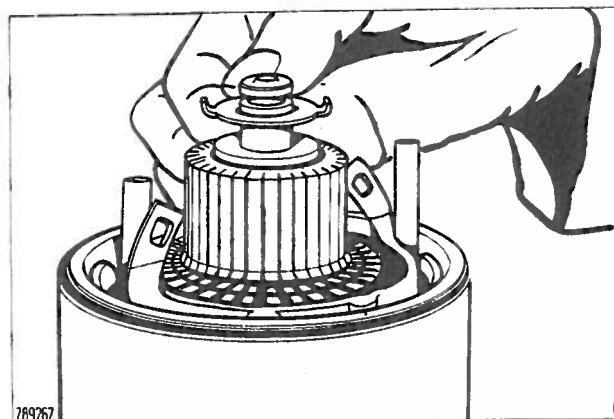

Fig. 94 Fitment of fibre and tabbed thrust washers
5. Fit the through bolts together with the insulating tubes. Fit the fibre and tabbed thrust washers respectively onto the commutator end of the armature shaft. The tabs should face away from the commutator Fig. 94.